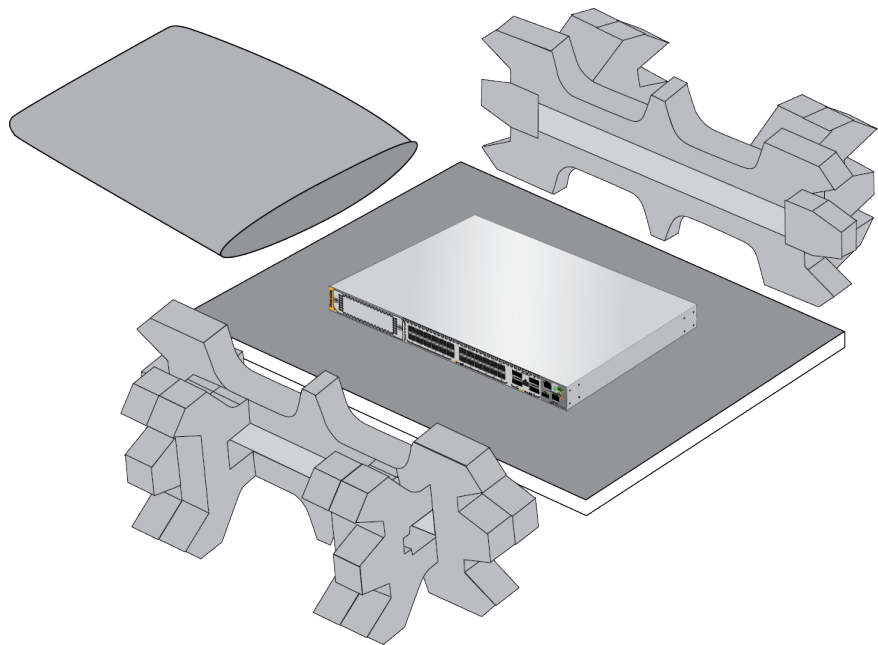

Figure 51. Removing the Switch from the Shipping End-caps and Protective Bag
4. Remove the switch from the shipping end-caps and protective bag. Refer to Figure 51.